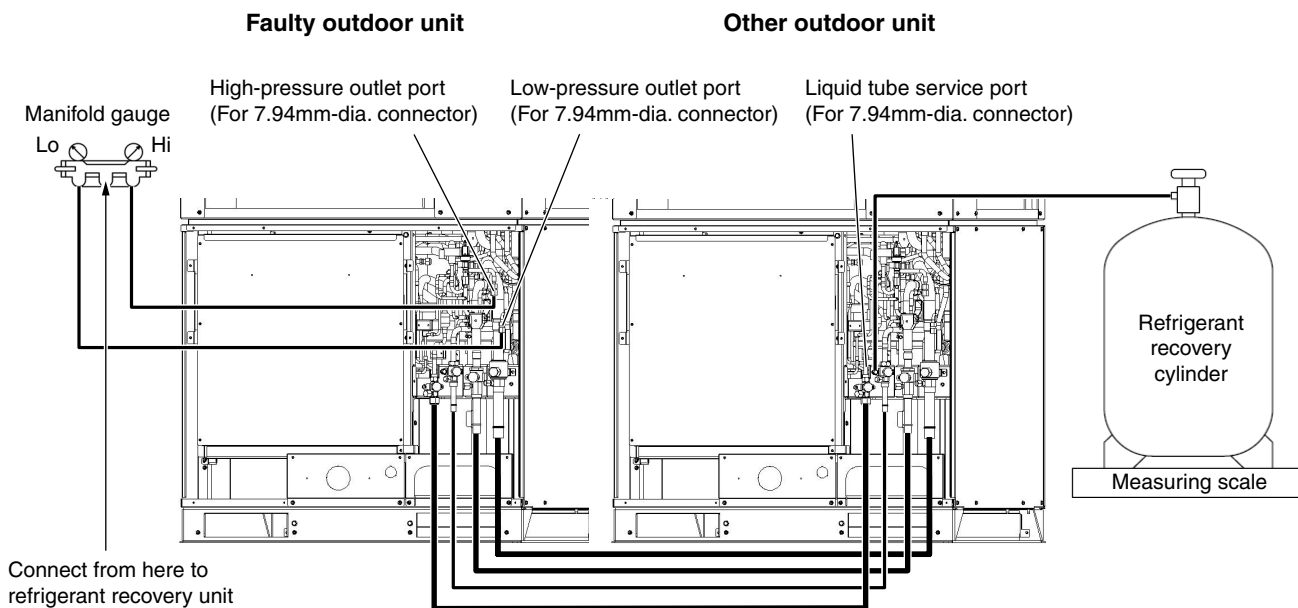

Fig. 18
- (1) Refer to “4. Backup Operation” and perform backup operation.
- (2) Connect the manifold gauge valves at the Lo side to the low-pressure outlet port of the outdoor unit to be repaired. Also connect the refrigerant recovery cylinder to any one of the normal outdoor units at the liquid line service port (Schrader-type push-to-release valve). Perform the connection work quickly so that no air is allowed to enter. (Fig. 18)
(2) Connect the manifold gauge valves at the Lo side to the low-pressure outlet port of the outdoor unit to be repaired. Also connect the refrigerant recovery cylinder to any one of the normal outdoor units at the liquid line service port (Schrader-type push-to-release valve). Perform the connection work quickly so that no air is allowed to enter. (Fig. 18)